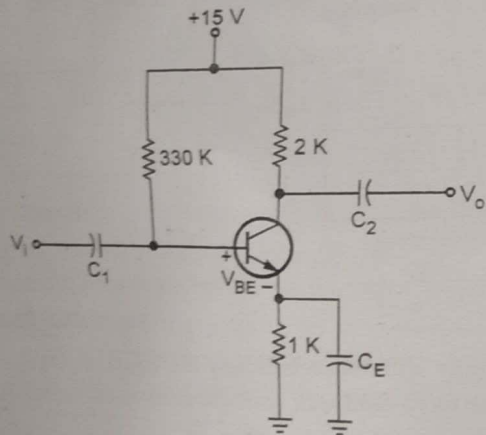

Fig. Q.54.1
Q.54 For the circuit shown in Fig. Q.54.1. Calculate $I_B, I_C, V_{CE}, V_C, V_E, V_B$ and V_{BC} . Assume $\beta = 100$.